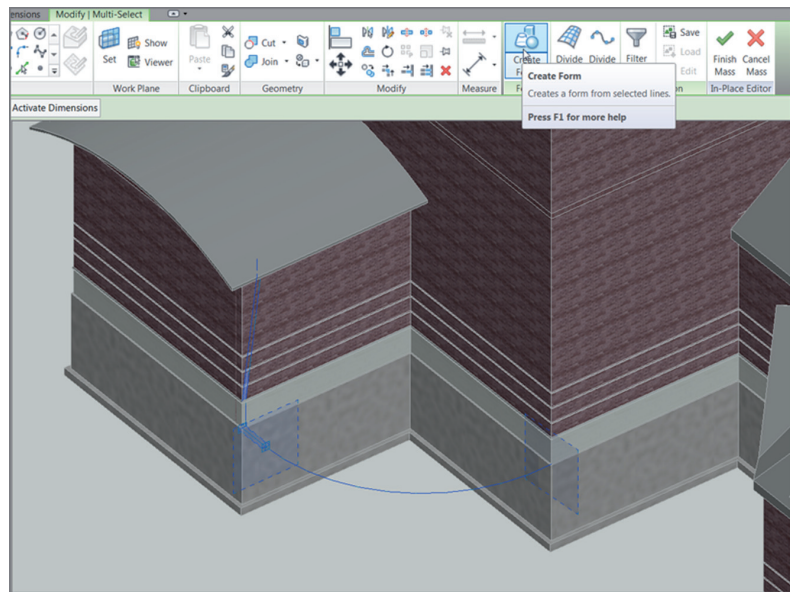

FIGURE BC1.46: Selecting the objects and creating the form
6. Click the Create Form button, as shown in Figure BC1.46.